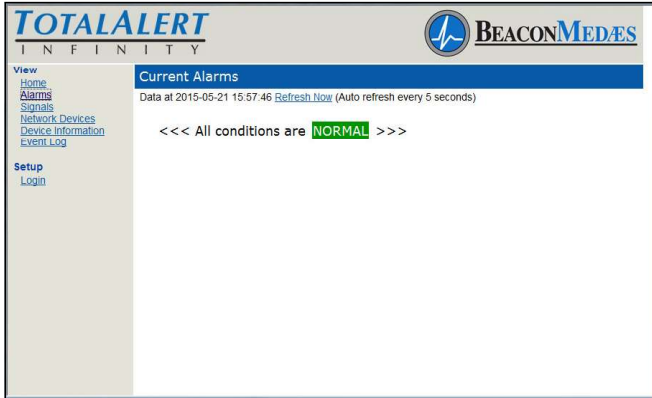

Figure 186: Alarms Page
1. Click Alarms to view current alarms (Figure 186).